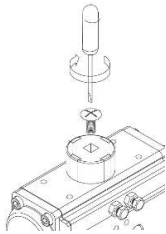

Fig. 4
5. INDICATOR ASSEMBLY (see Fig.4)